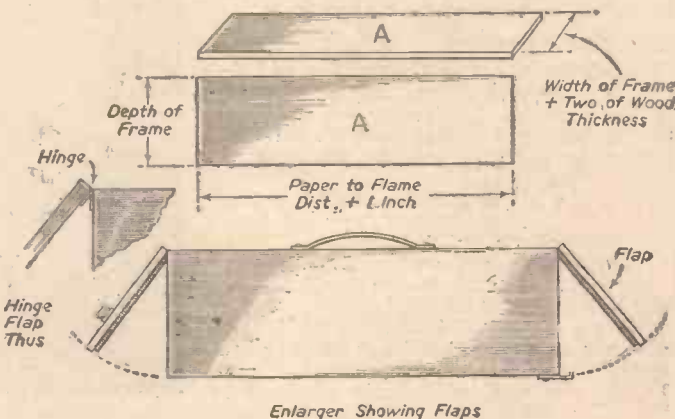

Fig. 4.—Casing construction, and details of hinged flaps.
To complete the enlarger, all that is necessary now is to fit the two flaps as in Fig. 4. These are rectangles of $\frac{3}{16}$ in. plywood held by light hinges. The flap that goes over the printing frame end is to keep any back light from getting through the folding back of the printing frame to the paper, and it is held with another spring clip at the opposite end to the hinges. The flap at the negative end is for keeping out the light till it is time for the exposure, and really acts as a shutter. It is not clipped down and a small knob is fitted to help in quick manipulation. Both flaps are well blackened and are covered on the inside with rectangles of thin black velvet, glued securely down. As a final refinement a handle of leather, as used for carrying rugs, etc., would be very convenient.
Now measure the width and length of the printing frame and cut the sides (A) (Fig. 4)—two with a width equal to the side of the frame and two with a width equal to the end of the frame, plus two thicknesses of the side wood. Make all the pieces 1in. more in length than the paper-to-flame distance and use $\frac{1}{8}$ in. or $\frac{3}{16}$ in. plywood for all four sides.
Fig. 4. The model of a tug-boat built for the English Electric Co., to demonstrate Turbo-electric drive. The larger scale steering wheel which operates the model can be seen on the left of the photograph.
One of the latest models built for the English Electric Co. is a tug, made to demonstrate the principles of turbo-electric drive, which means direct control to the propeller through the motors, from the captain through the telegraph on the bridge. By this means, although the signals from the bridge are registered in the engine room, no action is necessary by the engineer. This drive is particularly useful for small vessels, such as tugs, where a fraction of a minute in transmitting commands from bridge to engine room is of such importance. The model (Fig. 4) is made to a scale of $\frac{1}{2}$ in. to 1ft., and a replica of the bridge, mounted outside the showcase for demonstration purposes, is to the scale of $1\frac{1}{2}$ in.-1ft. By operating the telegraph on the large-scale bridge, the propeller revolves at various speeds forward and reverse, the rudder is moved, the signal is transmitted to the engine room, and at the same time the figure of the pilot on the bridge of the model itself operates the small telegraph. Truly a remarkable model.